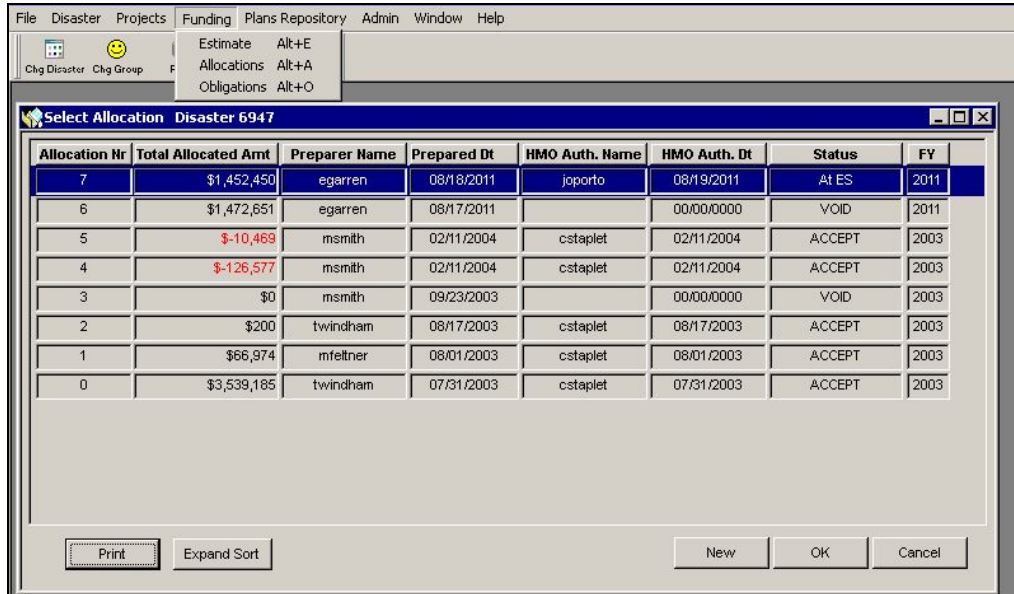

Figure 10-2: Mitigation > Funding > Allocations > New
1. On the NEMIS menu bar, click the Mitigation icon. If prompted, select Group ID and Disaster. On the MITIGATION menu, click Funding > Allocations > New (Figure 10-2).